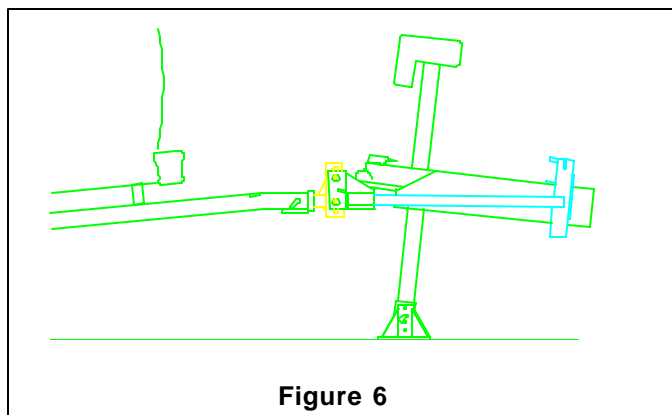
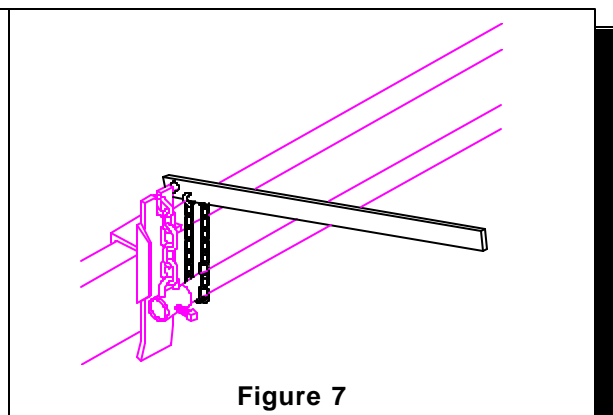

Figure 6
Figure 7
11. Use tongue jack to raise trailer tongue, refer to **Figure 6** (an electric jack will enable you to raise your trailer to its maximum height, reducing the amount of lift required with the hook-up handle). Use the hook-up handle (F) to aid in hooking the chain into the chain bracket slots, refer to **Figure 7**.